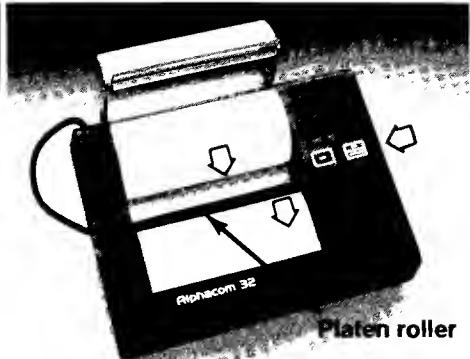

Figure 2
**LOADING ROLL PAPER INTO THE PRINTER** Paper loading may be easily accomplished by following the steps shown in **Figures 2, 3 and 4**.
**STEP 2:** Place the paper roll in the printer paper tray with about 6" of paper coming from underneath the roll. Insert the leading edge of the paper below the rubber platen, and press the ON/ADVANCE button. The paper will feed automatically. See Figure 2.